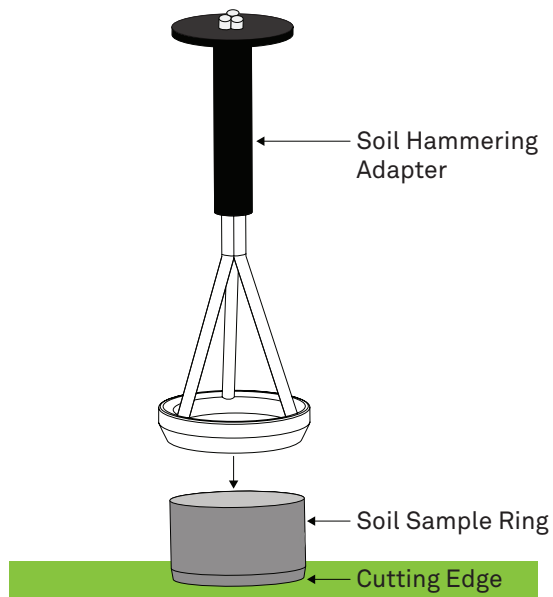

Figure 3 METER soil hammering adapter placement
4. Place the METER hammering adapter (available for 100 mL and 250 mL) on the sample ring (Figure 3).